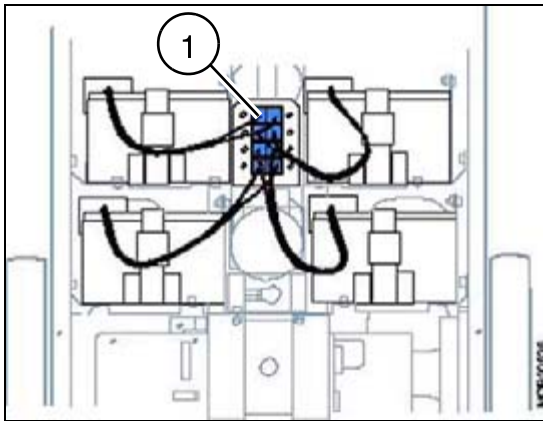
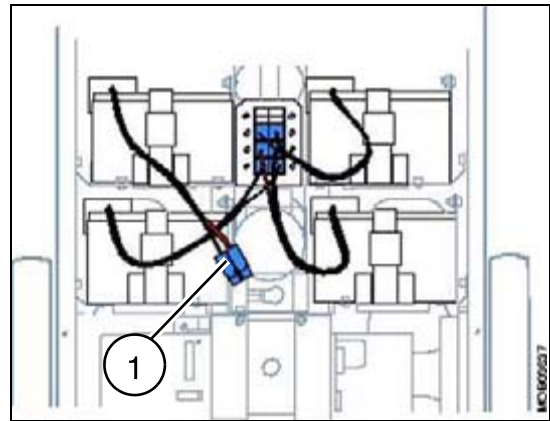

Fig. 4: KBATT plug connect
Fig. 5: KBATT plug disconnect
- Disconnect the batteries by removing one of the KBATT plugs (1/ Fig. 4 / p. 15) and (1/ Fig. 5 / p. 15) .